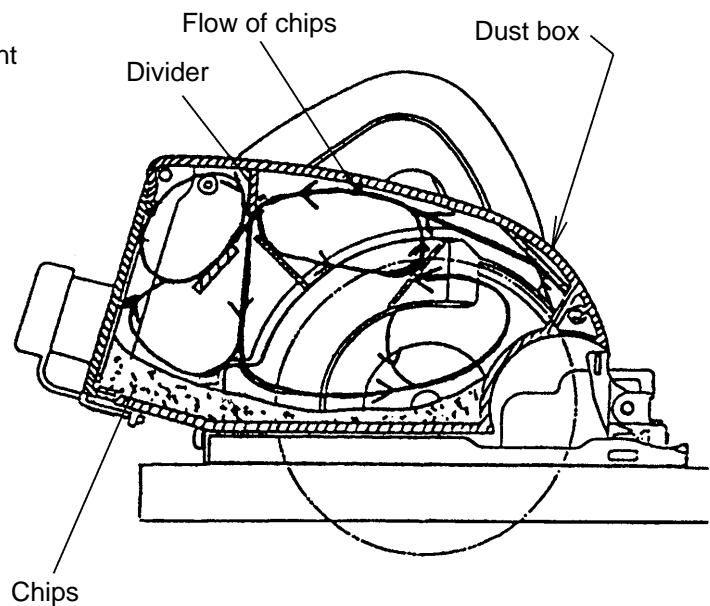

Fig. 8
- Some dividers are arranged in the dust box to improve dust collection efficiency and to prevent leakage of chips (Fig. 8).